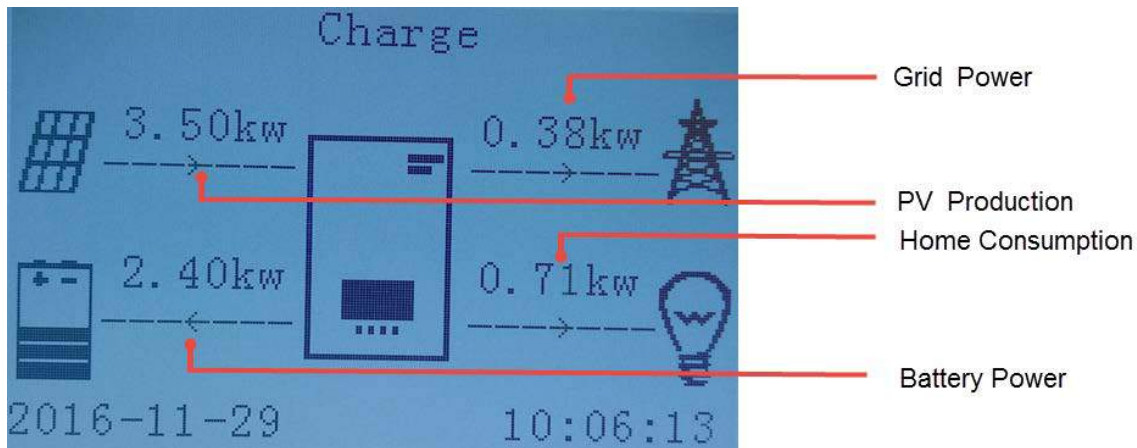

Fig 15. Screen of ME3000SP
- 6) Make sure the electricity consumption in ME3000SP's phase is greater than 200W. "Grid import power" shall equal "Home Consumption" now. (fig 15)
- 7) Turn ON PV inverter. "PV Production" shown on ME3000SP shall equal total power generation in ME3000SP's phase now. (fig 15)
While "PV Production" > "Home Consumption" (fig 15)
While "PV Production" < "Home Consumption" (fig 15)